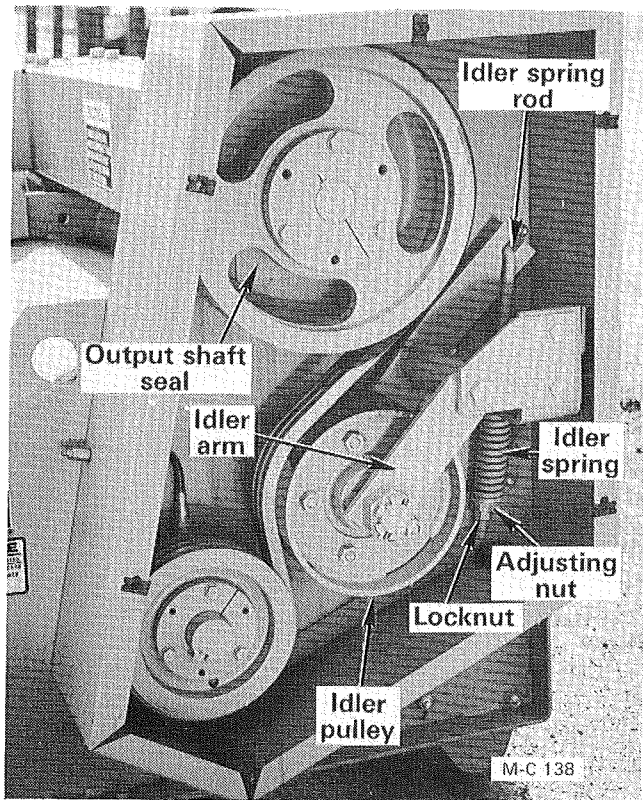

Figure 25
3. Loosen the idler spring rod locknut and back off the idler spring adjustment nut to relieve all spring tension. Remove the idler spring rod and spring, see Figure 25.
- B. Remove the two capscrews securing the output shaft seal, see Figure 25 and 26.